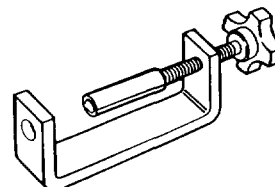

Fig. 2
1. Remove the solenoid harness (7) and valve (9); discard harness and three seal rings (10, 11, 12).
2. Remove and discard terminal lead out assemblies (8).
**Control valve covers (13) are under tension from control valve springs (14, 15). Remove covers carefully and wear safety glasses.**
3. Hold down on control valve cover while removing the capscrew. Remove and discard springs, control valves (16) and capscrews (21). Save control valve covers.
4. Remove master piston (22); discard flat spring (19), washer (20) and capscrew (21). Save the master piston.
**Slave pistons (23) are retained by heavy springs (24). To avoid injury when removing the slave piston, use proper tools and wear safety glasses.**
5. Remove locknut (17) from slave piston adjusting screw (18) and back out screw until the slave piston is fully retracted.
6. Install the slave piston tool P/N 017397 (Fig. 2) with the adjusting screw fitted into the hole in the tool.
7. Compress the slave piston spring and remove the retaining ring (26).
8. Remove the retainer (25), spring, slave piston and adjusting screw.